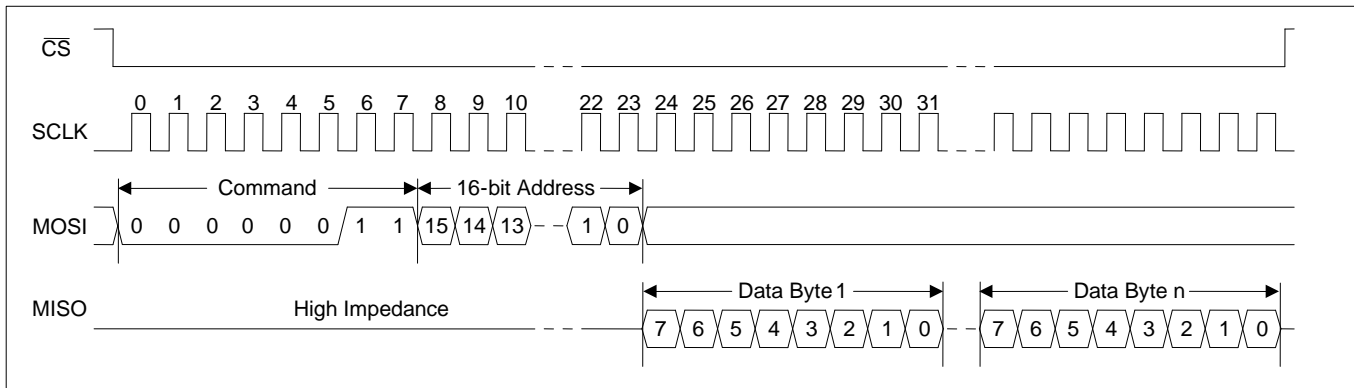

Figure 5 - SPI Read Transaction Functional Timing
**Read Transactions.** The device registers are accessible when **EESEL**=0. On ZL4025x devices with internal EEPROM, the EEPROM memory is accessible when the **EESEL** bit is 1. On ZL4025x devices without internal EEPROM, the **EESEL** bit must be set to 0. After driving CSN low, the bus master transmits the read command followed by the 16-bit address. The device then responds with the requested data byte on MISO, increments its address counter, and prefetches the next data byte. If the bus master continues to demand data, the device continues to provide the data on MISO, increment its address counter, and prefetch the following byte. The read transaction is completed when the bus master drives CSN high. See Figure 5.
**Read Transactions.** After driving CSN low, the device transmits the read command followed by the 16-bit register address. The external EEPROM then responds with the requested data byte on MISO, increments its address counter, and prefetches the next data byte. If the device continues to demand data, the EEPROM continues to provide the data on MISO, increment its address counter, and prefetch the following byte. The read transaction is completed when the device drives CSN high. See Figure 5.